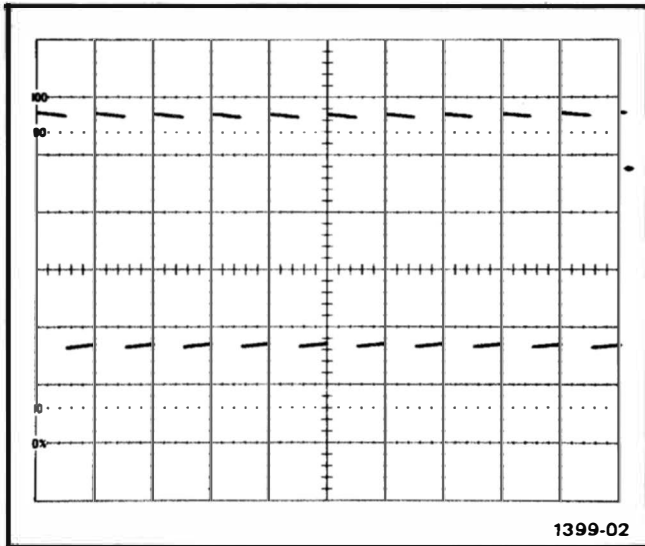

Fig. 2-2. Display showing correct calibration of the Horizontal Deflection System.
23. The center eight complete cycles of the displayed waveform should occupy the center eight graticule divisions within 0.25 division. Note the exact number of horizontal divisions occupied by the center eight complete cycles of the waveform (see Fig. 2-2).
26. The center eight complete cycles of the displayed waveform should occupy the center eight graticule divisions within 0.25 division. Note the exact number of horizontal divisions occupied by the center eight complete cycles of the waveform (see Fig. 2-2).